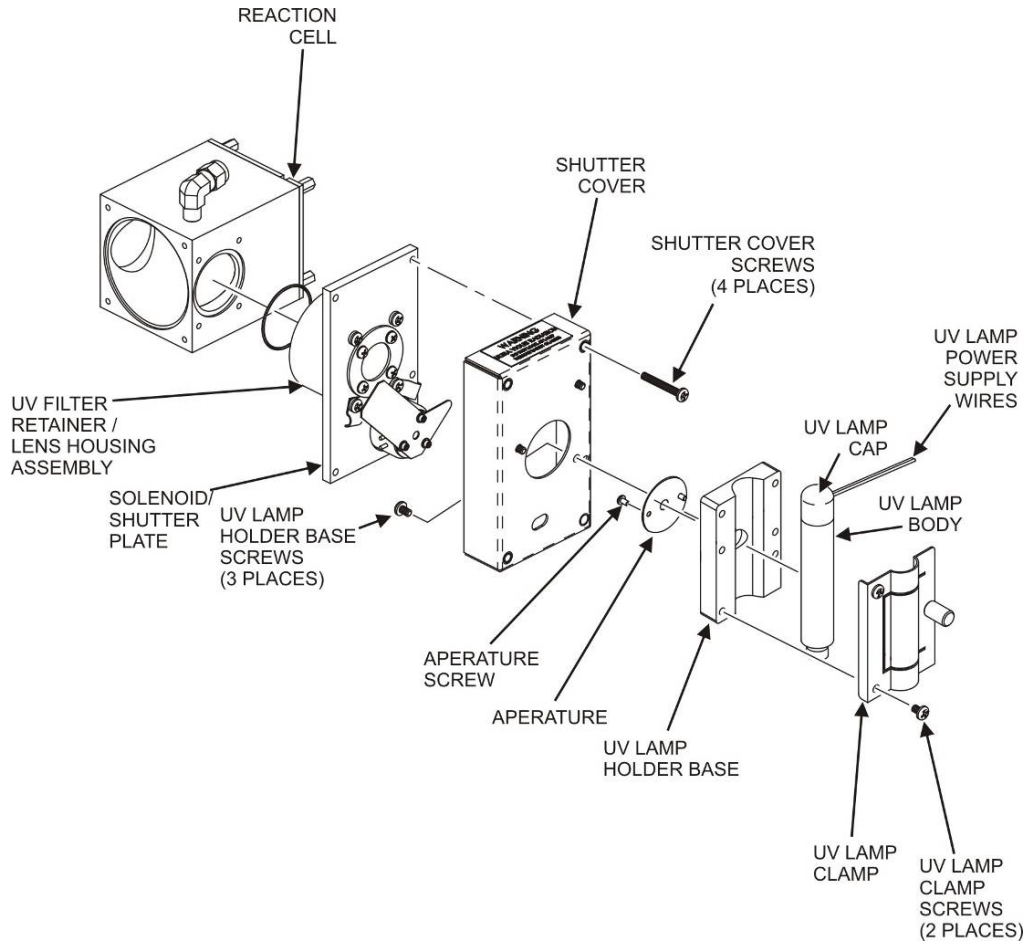
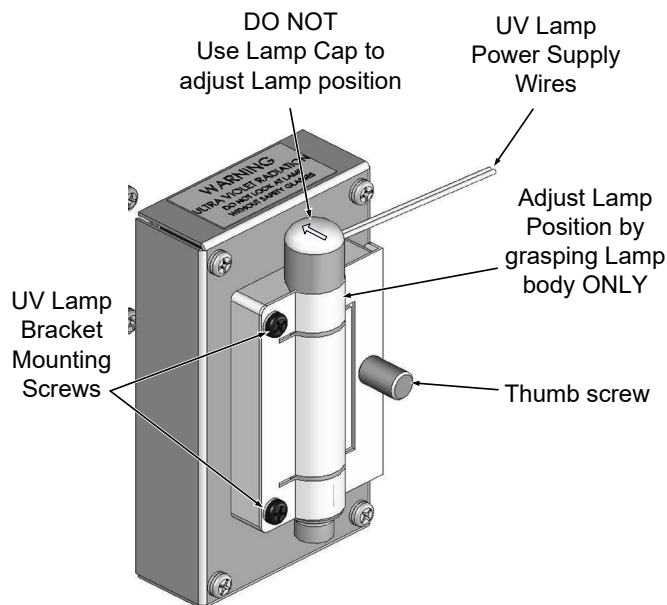

Figure 5-22. Shutter Assembly
Figure 5-23. UV Lamp Adjustment
2. Slightly loosen the large brass thumbscrew located on the shutter housing (refer to Figure 5-23) so that the lamp can be moved.
DO NOT grasp the UV lamp by its cap when changing its position - always grasp the main body of the lamp (refer to Figure 5-22). Inattention to this detail could twist and potentially disconnect the lamp's power supply wires.
4. Loosen, but do not remove the two UV lamp bracket screws and the large brass thumbscrew located (refer to Figure 5-22 and Figure 5-23) on the shutter housing so that the lamp can be moved.
DO NOT grasp the UV lamp by its cap when changing its position - always grasp the main body of the lamp (refer to Figure 5-22) Inattention to this detail could twist and potentially disconnect the lamp's power supply wires.